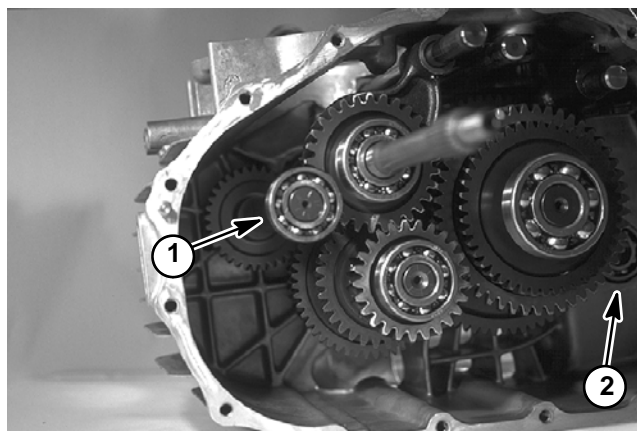

Figure 91
21. **On 4WD vehicles**, install bearing to gear case (see item 2 of Fig. 91) and center plate. Install front drive shaft and 41T gear to the gear case.